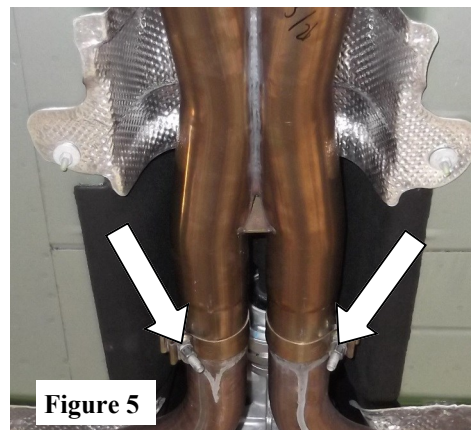

Figure 5
1. Place a clamp over each inlet of the **X-pipe Assembly** and insert inlet into factory header outlet pipes. (See Fig. 5) **Do Not** tighten the clamps.